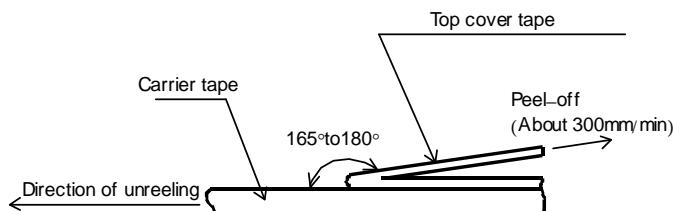
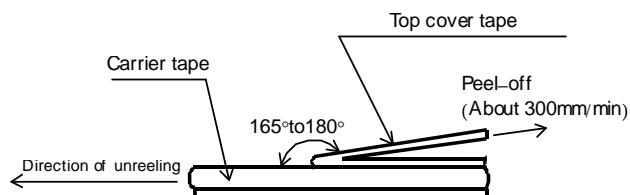
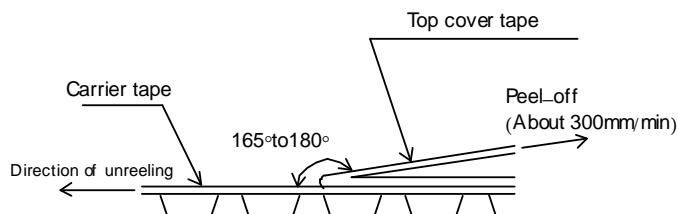

Figure-10
Figure-11
Figure-12
- 5). The peel strength of the top cover tape shall be within 0.1N to 0.5N on the test method as shown in the following RMC1/32,1/20: Figure-10, RMC1/16S, 1/16, 1/10, 1/8: Figure-11, RMC1/4, 1/2, 1: Figure-12.